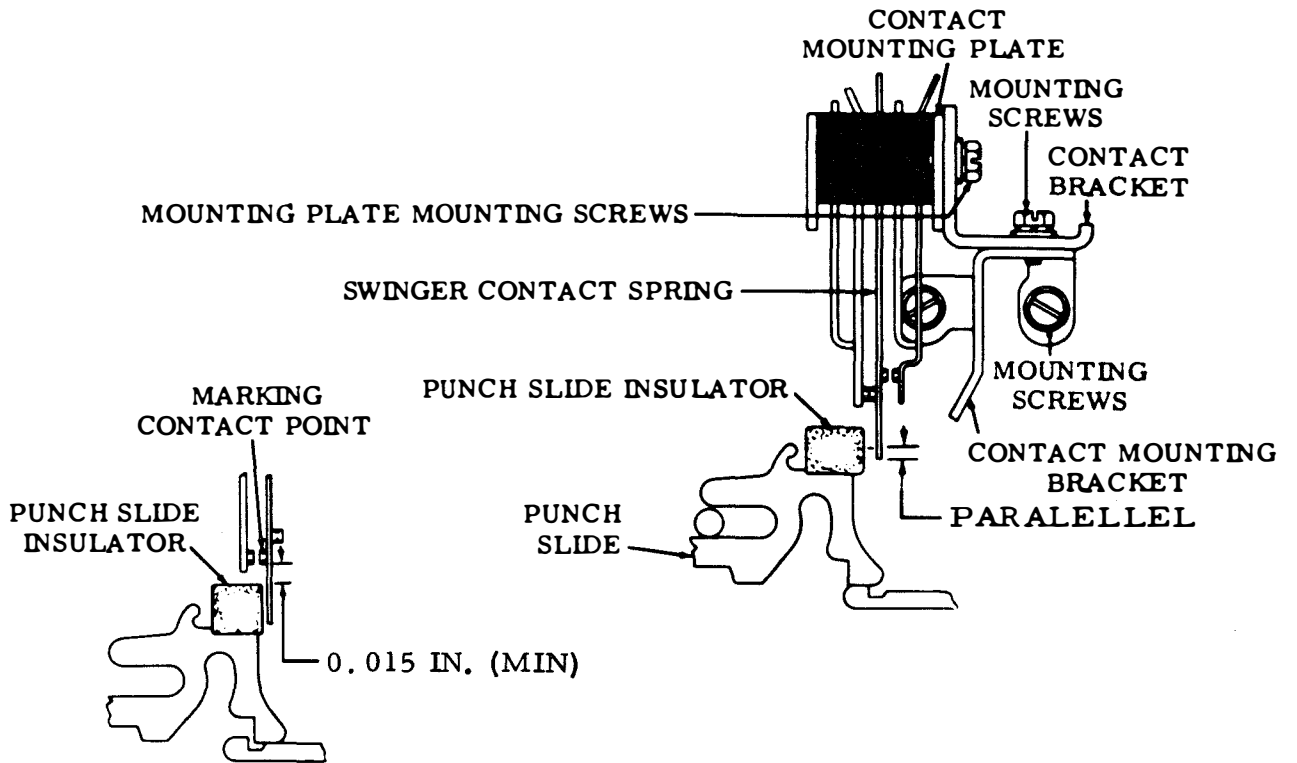

Figure 6-198. Contact Mounting Bracket
(6) Contact Mounting Bracket. Adjust as follows:
- (a) Refer to figure 6-198.